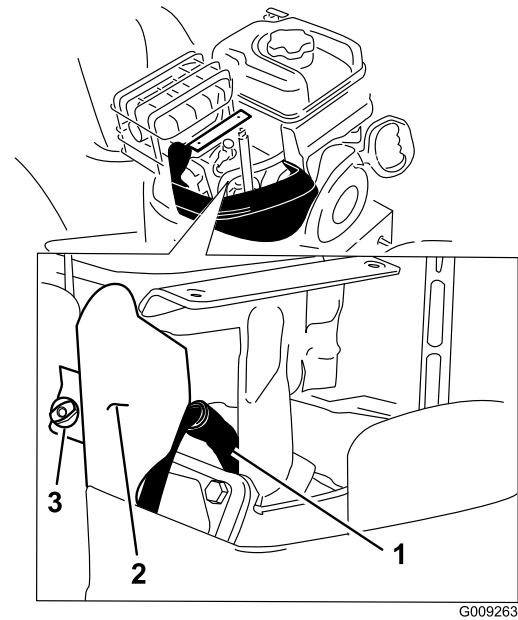

Figure 47
5. Clean around the base of the spark plug (Figure 47).
4. Remove the bracket thumb screw and the bracket (Figure 47).